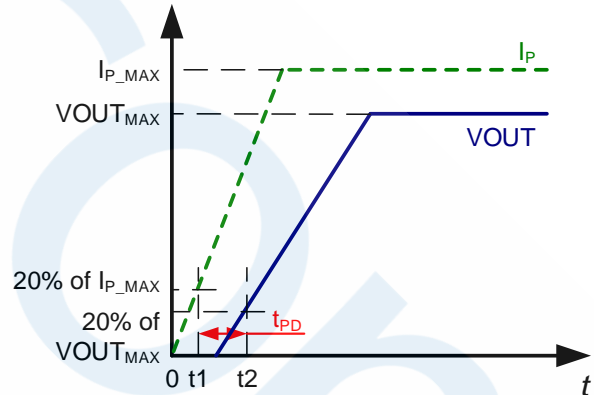

**Figure 5: Power-On Time ( $t_{PO}$ )**
- $t_2$ :  $V_{OUT}$  settles within ±10% of its steady state value under an applied primary current (see Figure 5).